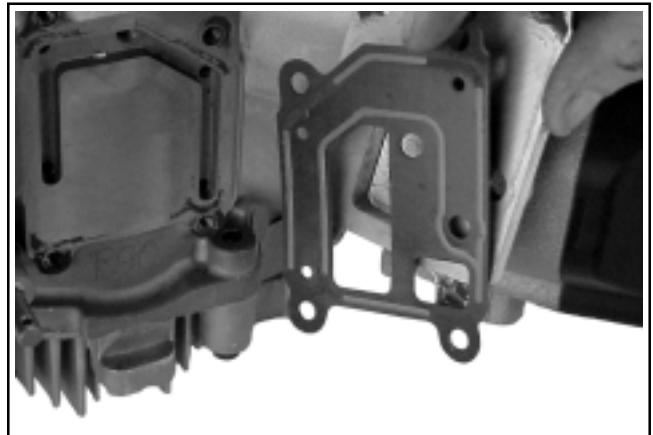

Figure 9-60. Removing Breather Cover and Gasket.
3. Remove the cover and the gasket. See Figure 9-60.